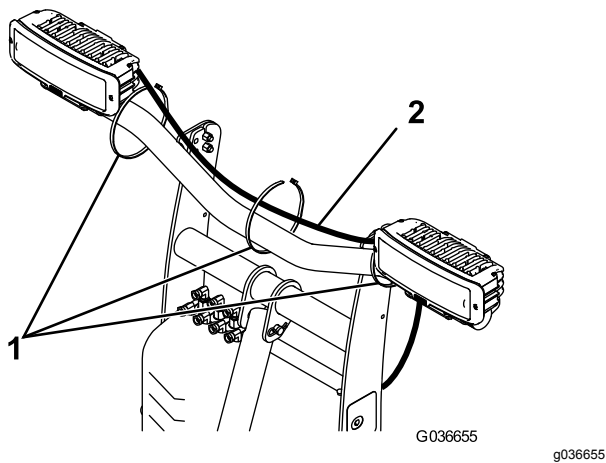

Figure 13
6. Insert the headlight connectors on the wire harness to the back of the headlight housing (Figure 13). The short length connects to the left headlight and the long length connects to the right headlight.
7. Secure the wire harness to the light bar using 3 cable ties as shown in Figure 13.